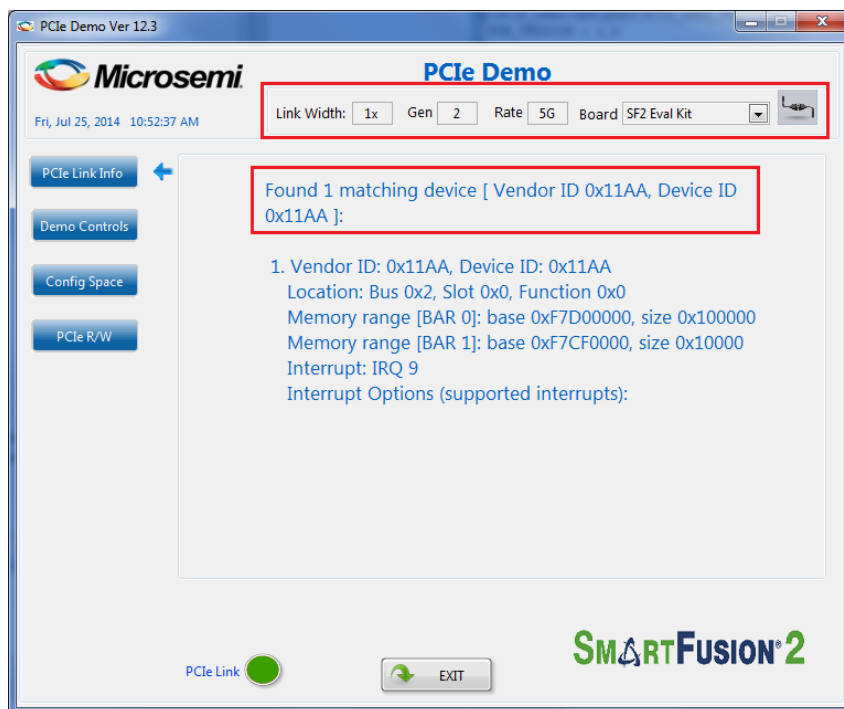

Figure 62 Version Information
4. Click **Connect** icon at the top-right corner of the GUI. The Link Width, Gen, Rate, and Type of Kit are displayed on the GUI as shown in Figure 62.